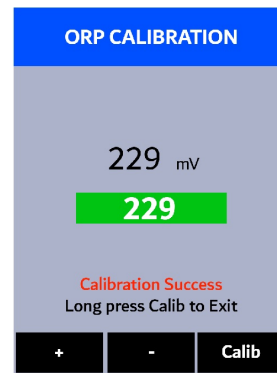

Figure 48.
7. Press **Calib** (**OK**). The message "**Calibration Success**" will appear on the display (Figure 48).